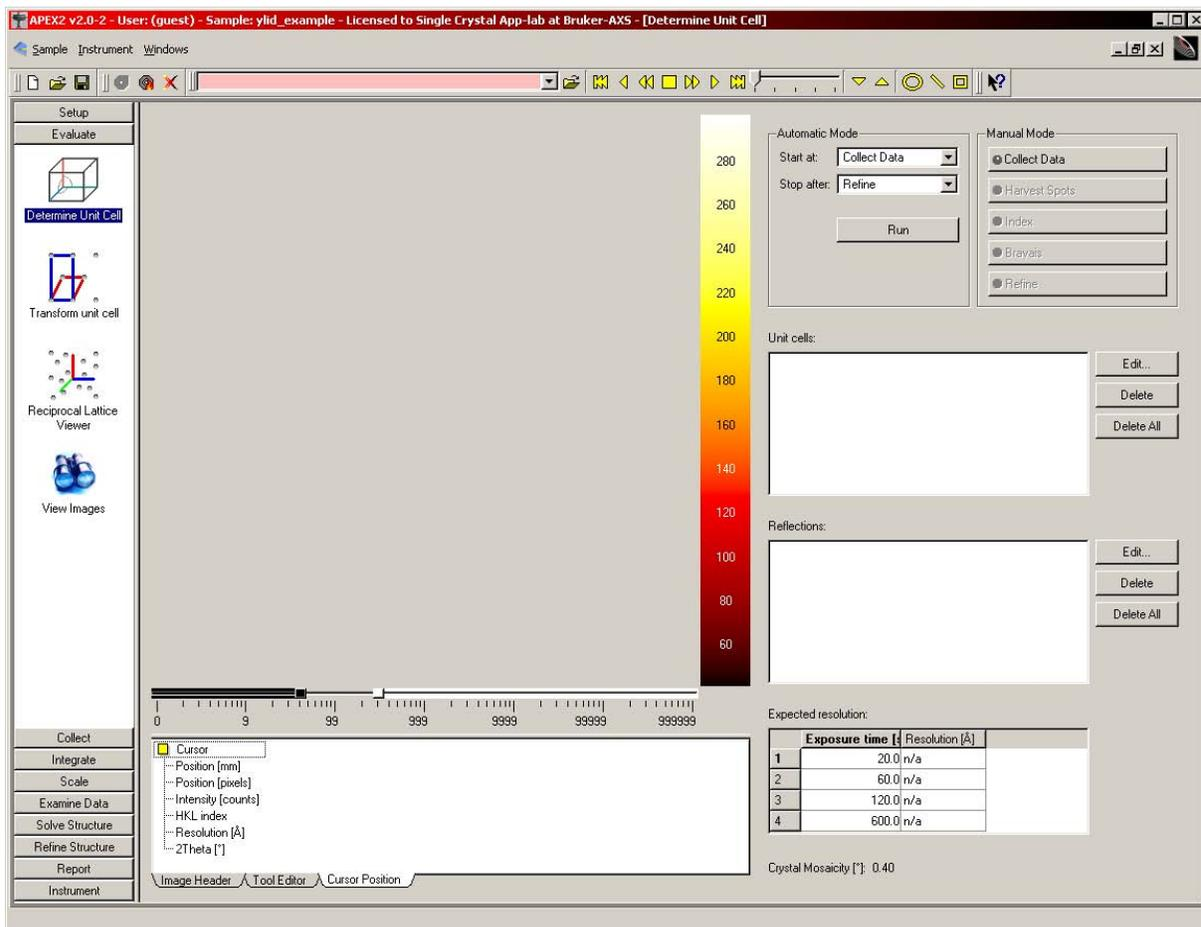

Figure 6.3 – Determine Unit Cell module
**NOTE:** The Determine Unit Cell module automatically determines crystal mosaicity and provides a table of exposure time versus diffraction limit (Figure 6.3, lower right-hand corner).
1. In the Task Bar, click **Evaluate** and then **Determine Unit Cell**. The Determine Unit Cell module appears (Figure 6.3).